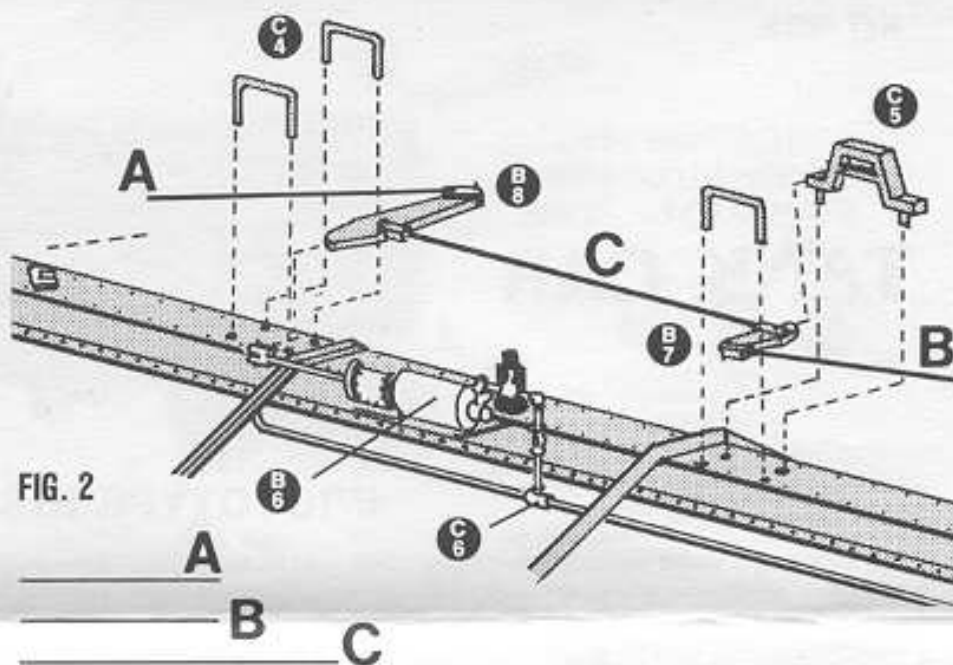

FIG. 2
## BRAKE RIGGING ASSEMBLY, FIG. 2.
- (10) Cement BRAKE CYLINDER B-6 to brackets.
- (11) Cement BRANCH LINE C-6 to DIRT COLLECTOR, snapping "T" over train line.
- (12) Cement FLOATING LEVER BRACKET C-5 to frame.
- (13) Cement FLOATING LEVER B-7 to Bracket C-5, at "right angle" (90°) to bracket.
- (14) Cement LEVER B-8 to BRAKE CYLINDER CLEVIS, also at right angle.
- (15) Cement BRAKE LEVER GUIDES C-4 (three) to frame.
- (16) Cut brake rodding from .010 wire, to lengths shown FIG. 2. Cement each in place as shown with ACC cement.
- (17) From .020 wire, cut BRAKE STAFF to length. De-burr both ends.
- (18) Cement BRAKE WHEEL C-10 to staff with ACC.
- (19) Insert brake staff into ratchet plate and support with ACC.
- (20) Install GRABIRONS C-13 in eight places on frame.
- (21) Install DOME GRABIRONS C-2 to each side of dome.
- (22) Cement four HAZARD PLACKARDS B-9 to running boards.
- (23) Cement completed PLATFORMS (remember those? Now the cement is dry!) to tank straps. You have to "eyeball" this one, but here's how: The "bolt" on the lower part of the bracket should be over the top row of rivets. Be sure brackets are parallel to tank joint and well secured.
- (24) Cement HANDRAIL BRACKETS C-7 (spares provided) in four places on each side of tank.
- (25) Cement ONE END HANDRAIL C-8 in place.
- (26) Trim the two short pieces of .020 wire to the length shown. HINT: Wire should go from center to center of the two end brackets. De-burr both ends.